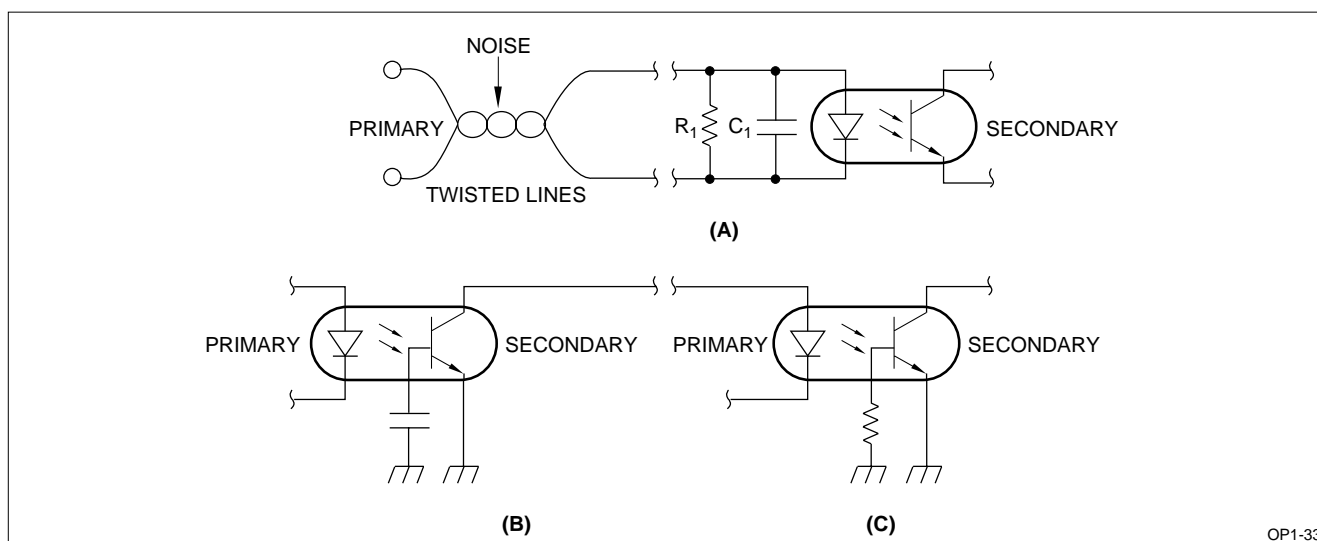

Figure 4. Noise Protection Example
Figure 4 shows some noise protection examples. The example shown in Figure 4 (A) includes the parallel connection of a capacitor ( $C_1$ ) and resistor ( $R_1$ ) across the input of the photocoupler where relatively long signal lines are connected for example where a computer and a terminal unit. The larger the capacitance of  $C_1$ , the greater the effect is expected, although signal propagation time is sacrificed.
The examples in Figure 4 (B) and (C) use a photocoupler with a base terminal. Example (B) is effective against noise, but only in exchange for the response time, while example (C) tends to have low current transfer ratio (CTR).